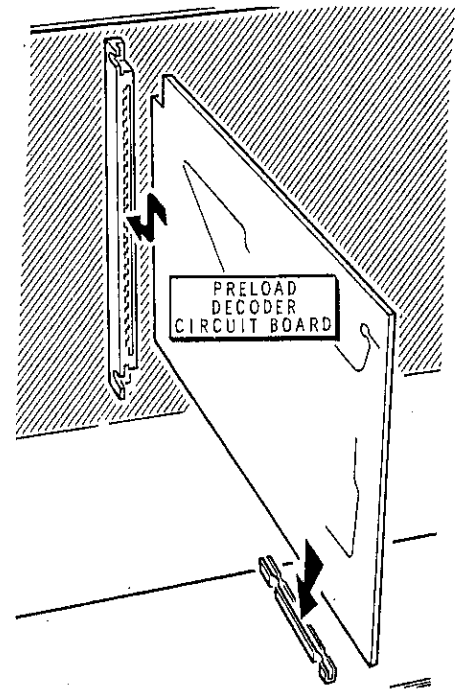

Figure 1-6
- (✓) Refer to Figure 1-6 and install the preload decoder circuit board.